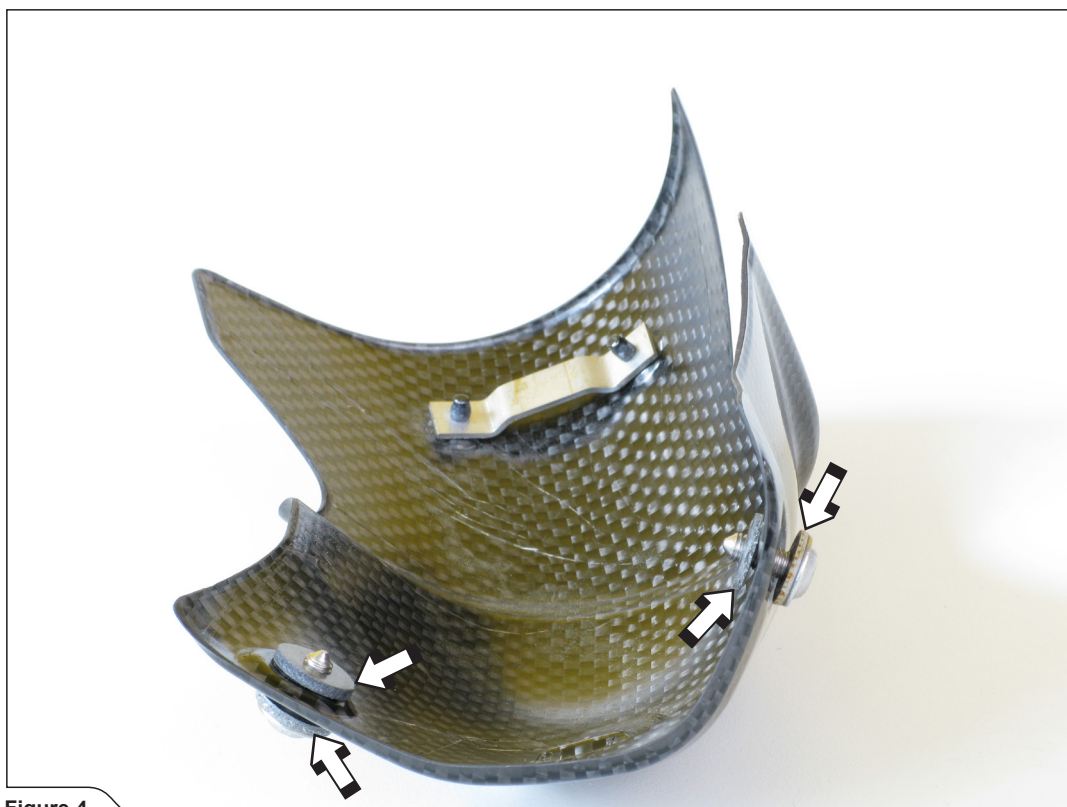

Figure 4
2. **For Low and High Slip-On:** correctly assemble the bolts and heat resistant washers onto the carbon fiber heat-shield, as shown (Figure 4).